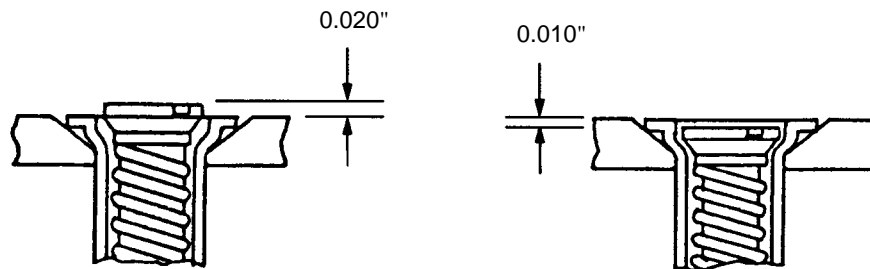

Figure 12 - 2700 Series Stud Head Height
- 6.6 When measured from the top of the grommet, the head height of 2700 series studs, when down and locked, shall be +0.020 to -0.010" (see Figure 12).